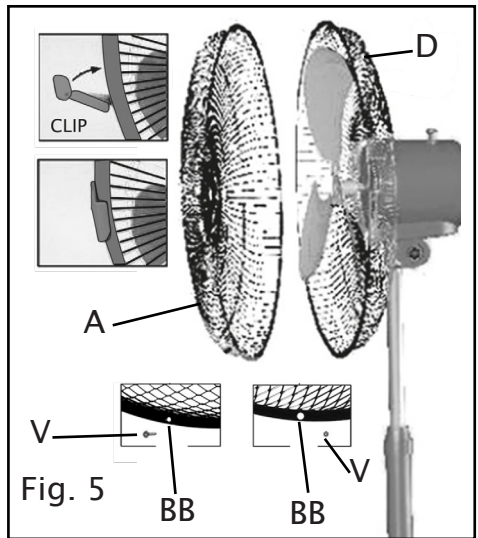

Fig. 5
Insert the screw (V) into the holes (BB) by screwing it to its nut (V) and close with the grille locking clips. (Fig 5)